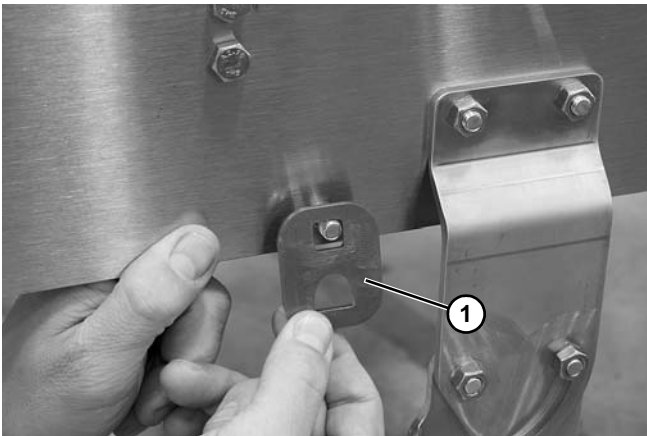

Figure 24
2. Install return bracket (Figure 24, item 1).